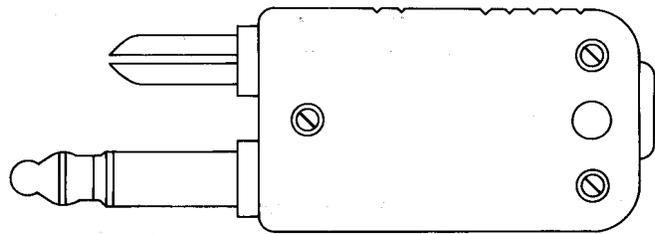

Fig. 15—420A Plug
2.15 420A: The 420A (Fig. 15) is a twin-plug with the long finger designed for tip and ring connection to a 280A- or similar-type jack. The short finger is designed for sleeve connection to a 240A- or similar-type jack. This plug is used in the J70099 No. 9 Telegraph Service Board.